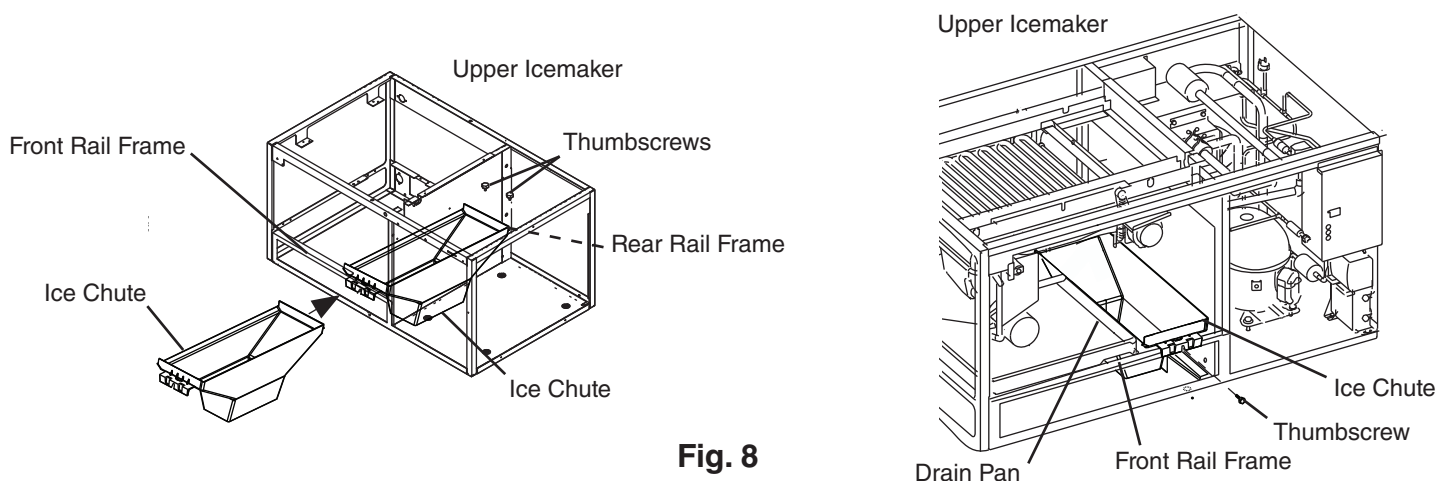

Fig. 8
- 16) Place the new ice chute provided in this kit in position as shown in Fig. 8. Secure the rear of the ice chute to the upper icemaker rear rail frame (bin control mounting bracket holes) with the new thumbscrews provided in this kit. Secure front of the ice chute to the upper icemaker front rail frame (cube guide mounting hole) with the cube guide thumbscrew removed in step 13. Confirm that the front of the ice chute clips over the front rail frame of the upper icemaker and that the drain pan is not sitting on top of the ice chute. **NOTICE! Confirm the drain pan is not sitting on top of the new ice chute.**